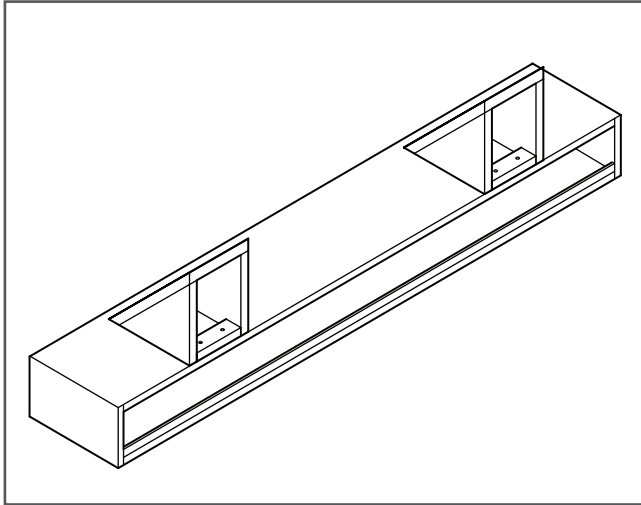

Figure 1
2. Place the corbels (F.) upside down in the desired position on the mantel bottom. Ensure that the back edge of the corbel is even with the back edge of the mantel (Figure 1).